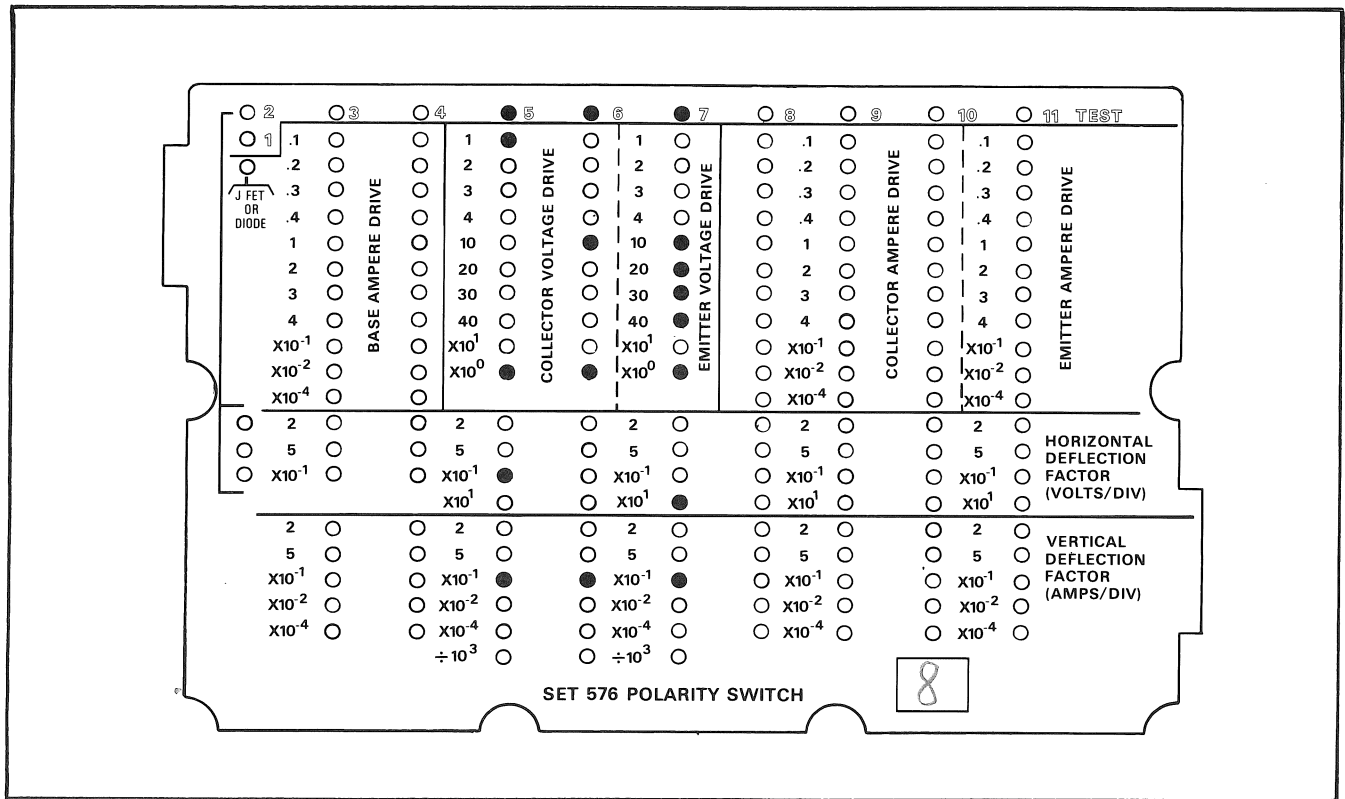

Fig. 5-8. Program 8.
a. Install a card containing program 8 (Fig. 5-8) in the card reader.